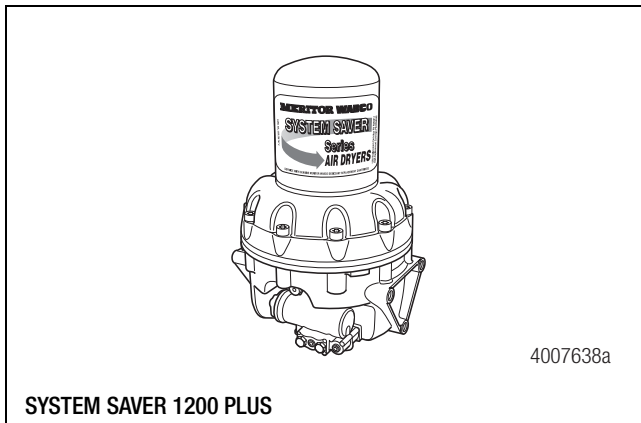

Figure 1.3
**System Saver 1200 Plus:** Has the governor integrated into the body of the air dryer and also has an integrated purge tank. Figure 1.3.